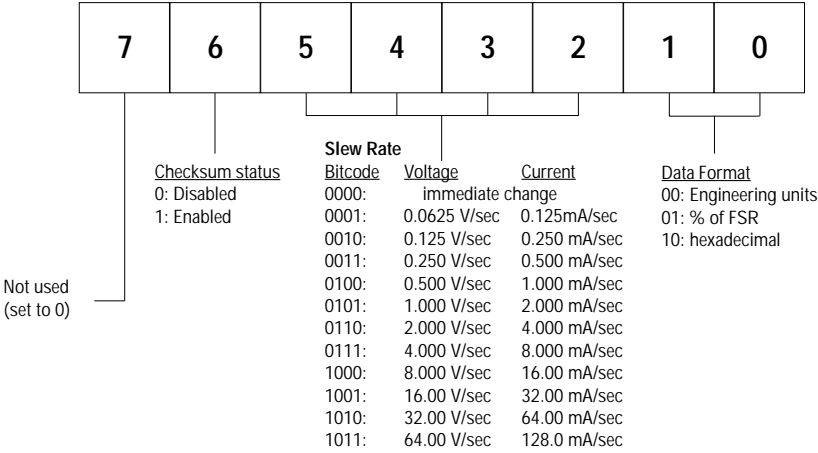

Figure 4-2 Data format for 8-bit parameter
- FF is a hexadecimal number that equals the 8-bit parameter representing the status of data format, slew rate, and checksum. The layout of the 8-bit parameter is shown in figure 4-2.